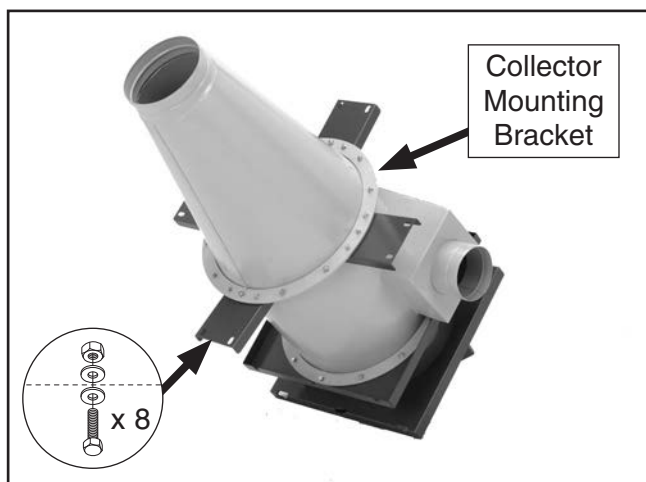

Figure 12. Collector mounting brackets attached to intake assembly.
10. Attach (4) collector mounting brackets to intake assembly, as shown in **Figure 12**, using (8) $\frac{5}{16}$ "-18 x 1" hex bolts, (16) flat washers, and (8) lock nuts.